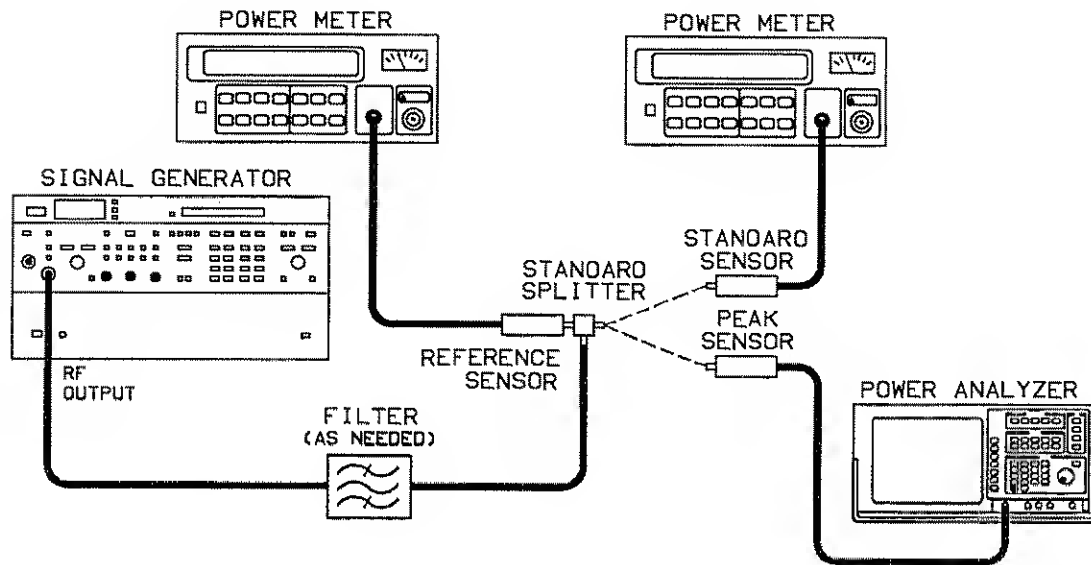

Figure 6-4. Power Level Variation Test
1. Set up your system as shown in Figure 6-4. Connect the standard sensor (standards lab calibrated average power sensor) to the calibrated port of the splitter.
9. Replace the standard power sensor and meter with the peak sensor (DUT) and HP 899X peak power analyzer. Refer to Figure 6-4.